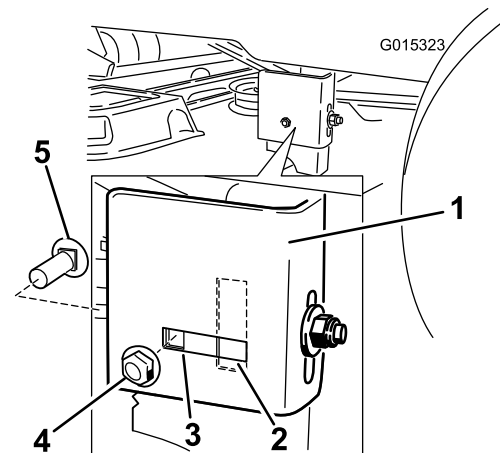

Figure 51
7. Move to the left side of the machine. Remove the side carriage bolt and locking nut from the fixed position and install it into the rear, slotted position and leave it slightly loose (Figure 51).